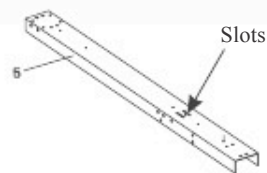

Fig. 7
A) Start by laying the strap end channels out on the ground so that the open ends face down. Notice the two slots on top of each of these channels. You will not be using these slots in the construction of the pool, but pay attention to where they are located in the diagrams. They indicate which way the channels are facing. See Fig.7